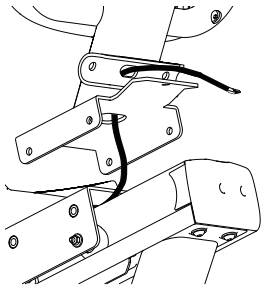

Figure 5
- While your assistant holds the seat back assembly, feed the heart rate sensor cable into the seat back support through the opening at its base and then out through the opening in the handlebar bracket (Figure 5).